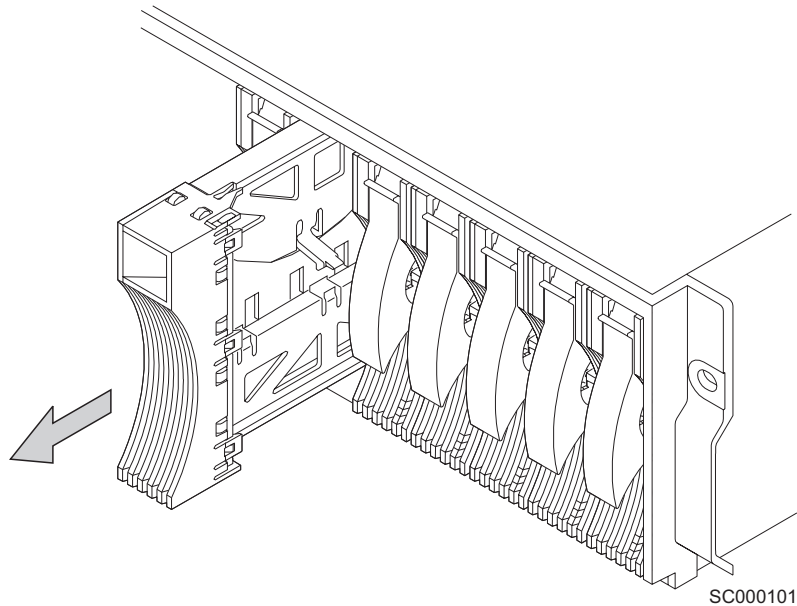

Figure 46. Removing a dummy disk drive module from a 2104 Model DS4
3. Using the finger slot that is provided at the top of the module, remove the dummy disk drive module, as Figure 46 on page 62.